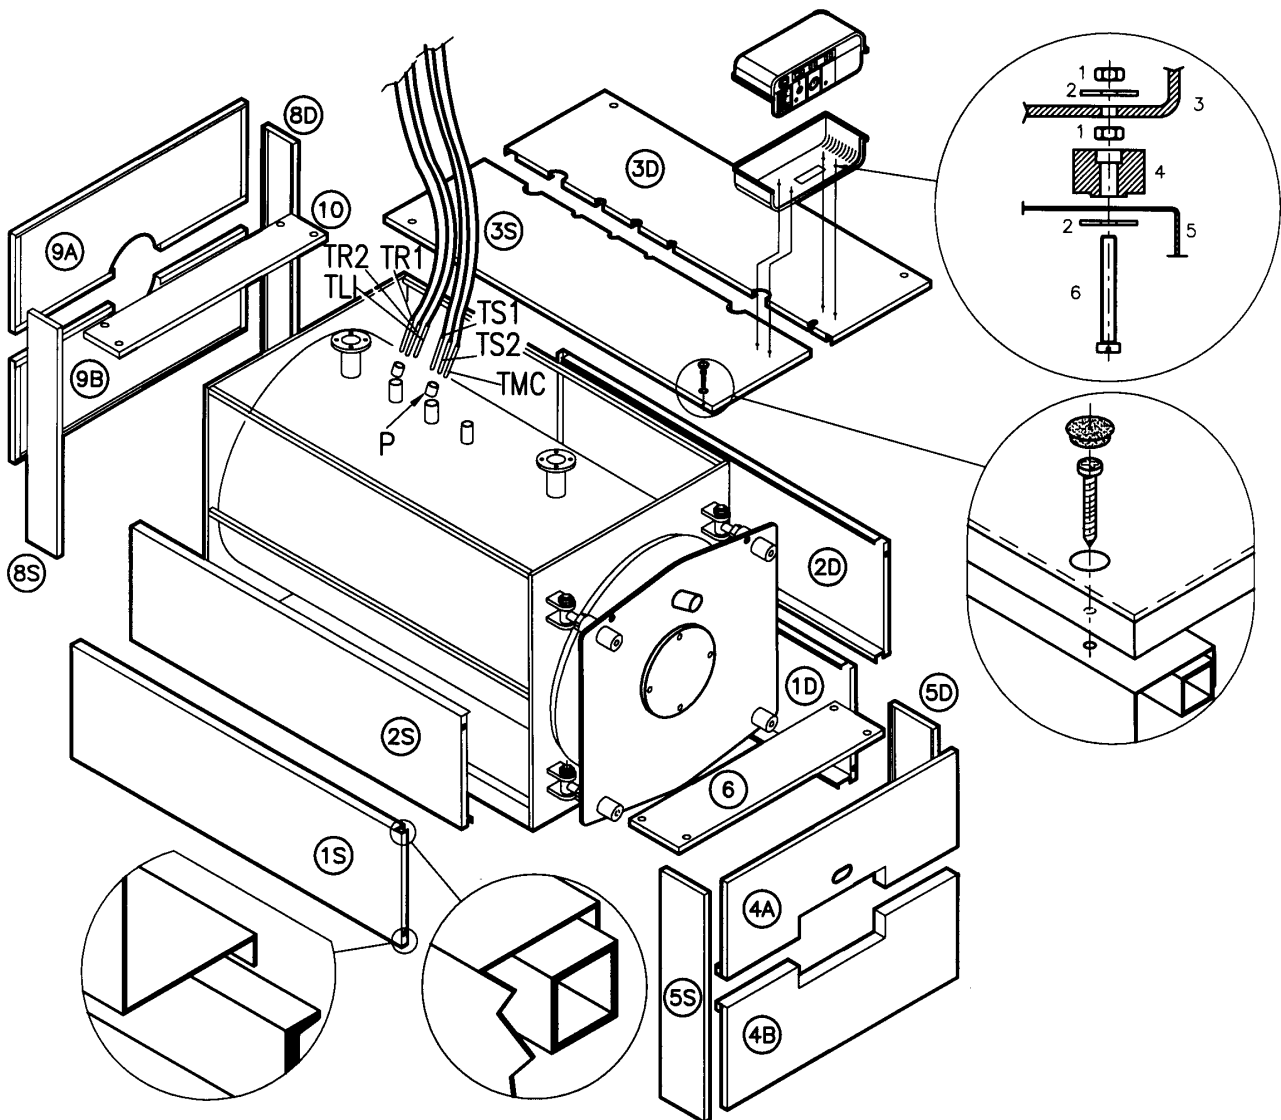

Fig. 9
**4.2. DRN 465 - 1163 BOILER CASINGS (Fig. 9)**
- e) Fit the panels (5S) and (5D), connecting them to the side panels by means of the brackets; fit the front panels (4B) and (4A) connecting them to panels (5S) and (5D). Close the manhole casing by fitting the upper panel (6) secured by screws; close holes with special caps (see figure).
- f) Fit the panels (8S) and (8D), connecting them to the side panels by means of the brackets; fit the rear panels (9B) and (9A) connecting them to panels (8S) and (8D). Close the smokebox casing by fitting the upper panel (10) secured by screws; close holes with special caps (see figure).